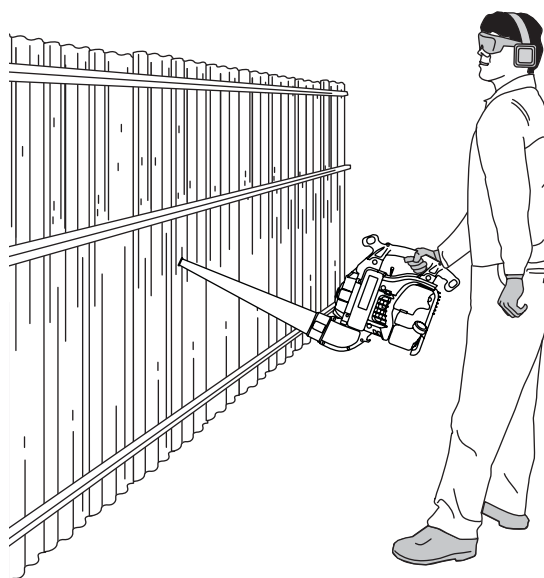

Fig. 19
- 3 Use the blower around walls, overhangs, fences and screens (Fig. 19).